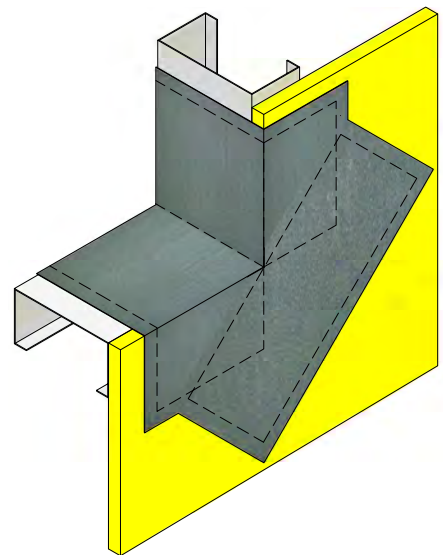

Figure 10
6. Apply additional SENERSHIELD-R or SENERSHIELD-VB onto the SHEATHING FABRIC to embed. Verify SHEATHING FABRIC is smooth, free of wrinkles, and voids. (See Figure 10)